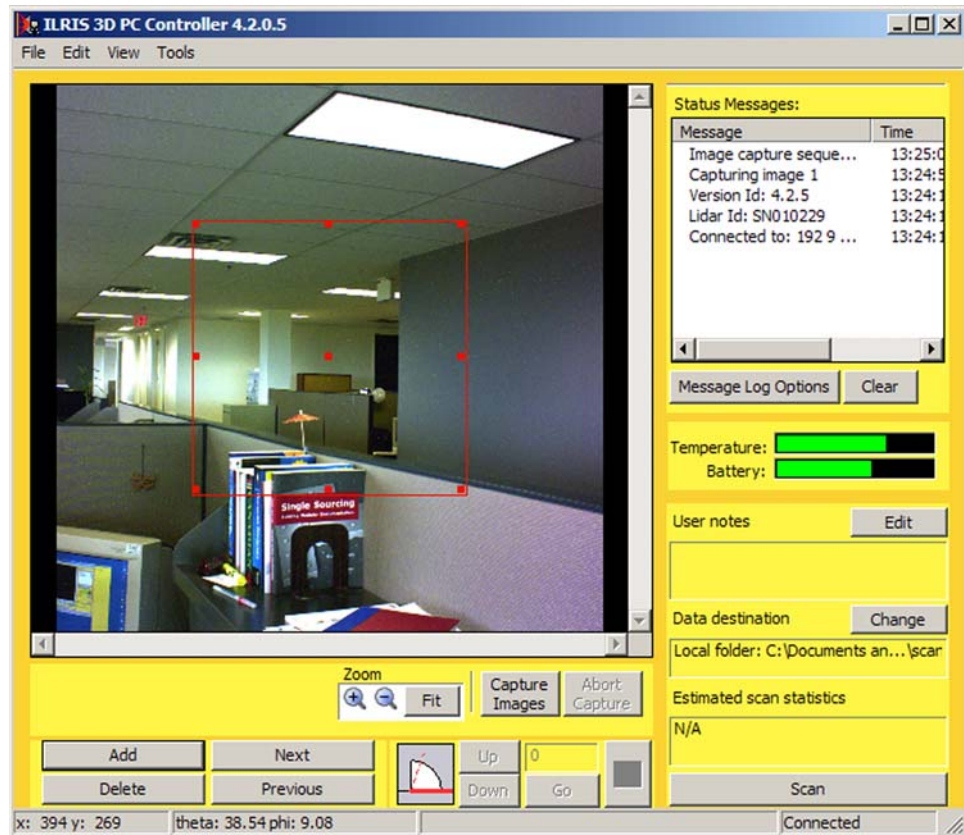

Figure 74: ROI box, showing capture nodes
- Click the **Add** button to add an ROI box (Figure 74). The ROI defines the ILRIS-3D's field of view (FOV).